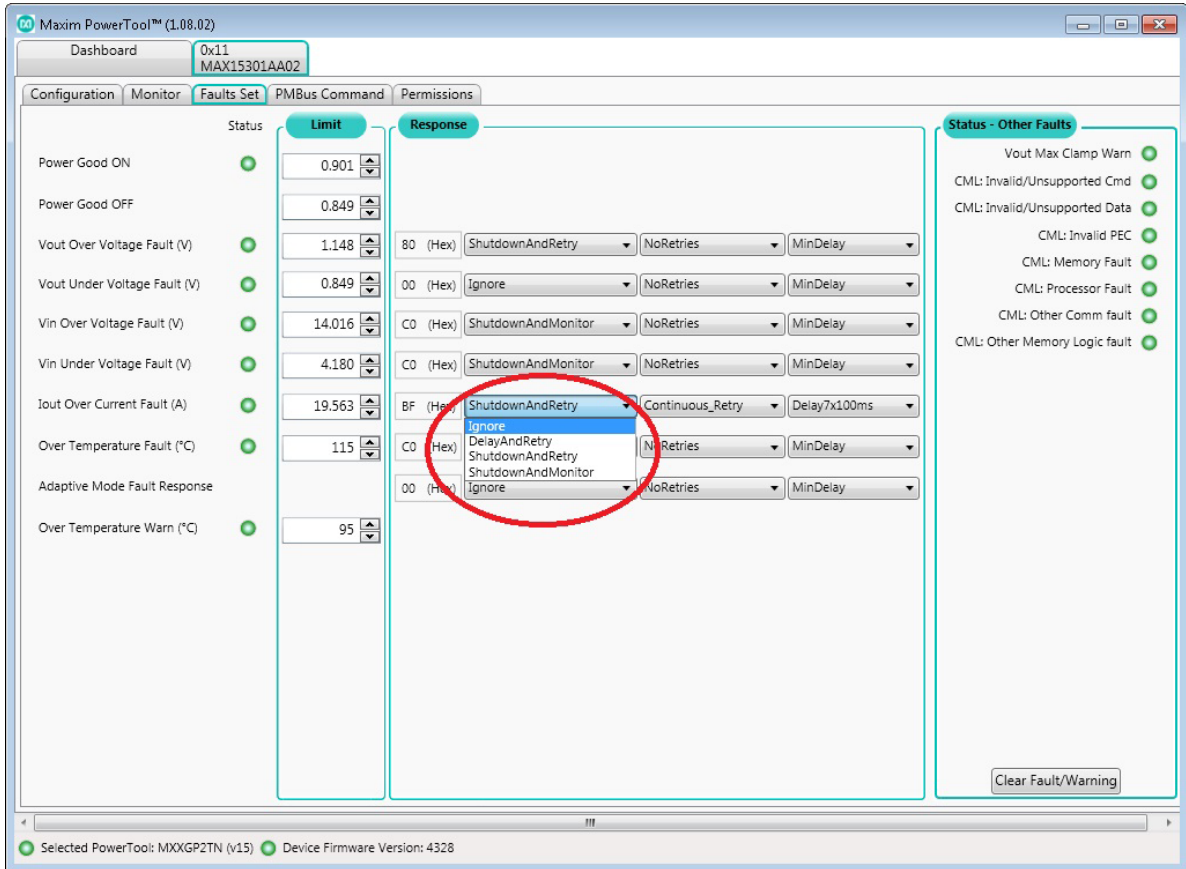

Figure 3. Disabling the overcurrent fault.
- In the **Faults Set** tab, disable **IOUT OC FAULT (A)** by selecting Ignore to eliminate the possibility of overcurrent faults due to incorrect IOUT_CAL values (Figure 3). Be sure to stay within the current capability of the design.